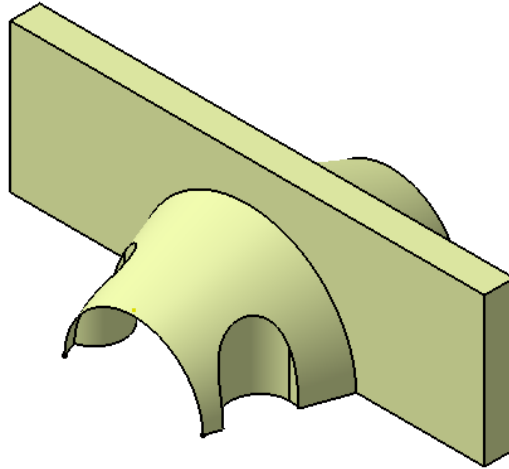

Figure 17-112 The model after trimming
3. Choose the **OK** button from the **Trim Definition** dialog box. The model after trimming the base surface is displayed in Figure 17-112.